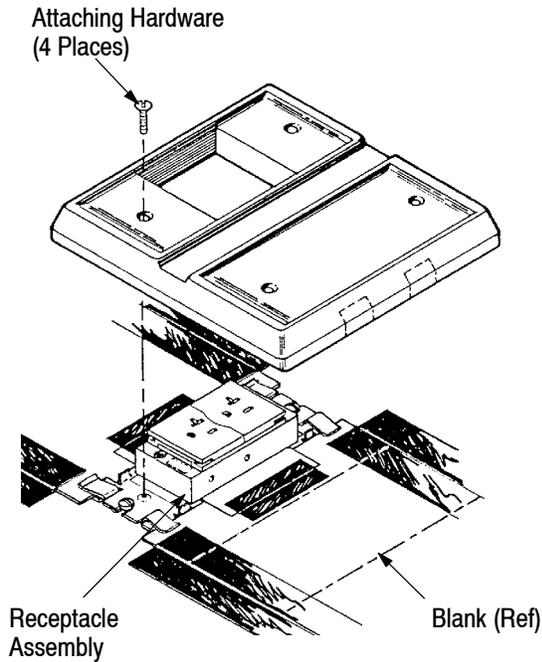

Figure 9
3. Secure the cover to the mounting plate using the attaching hardware. See Figure 9.